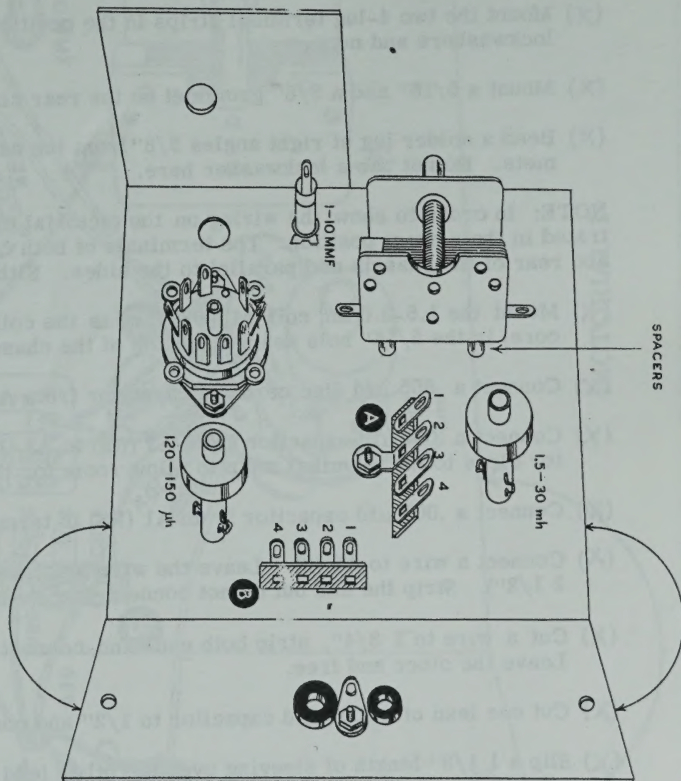

Figure 2
(X) Mount a 9-pin miniature socket in the 3/4" hole near the chassis bottom, using 3-48 screws, lockwashers and nuts. Position the socket so the pins appear as shown in Figure 2.
(X) Mount the 1-10  $\mu\text{f}$  trimmer capacitor by pushing the mounting clip through the 5/16" hole until it catches (see Figure 2). The stator terminal should face toward the chassis rear. This trimmer capacitor and the two coils have a small locating projection on one side of the mounting clip. This should be bent back or broken off before the clip is pushed into the mounting hole.
- (X) Cut the other resistor lead to 3/8" and connect to socket pin 3 (S). Keep the resistor close to the tube socket.
- (X) Cut one lead of a 2.2 megohm resistor (red-red-green) to 5/8" and the other lead to 1/2". Bend the leads as shown in Pictorial 1. Connect the 5/8" lead to ground lug 2 (S) and the 1/2" lead to pin 2 (NS).
- (X) Cut both leads of a 2.2 megohm resistor to 1/2" and connect from ground lug 3 (S) to pin 7 (NS).
- (X) Mount the 100  $\mu\text{f}$  tuning capacitor near the top front of the chassis in the following manner. First bend the capacitor terminals at right angles as shown in Figure 2. Insert four 4-40 x 3/8" screws through the 1/8" holes and place 3/16" spacers over them. Place the capacitor over the screws, and holding the screws with the fingers and the capacitor with the thumb of one hand, start each screw separately. When all screws are started, align the capacitor squarely and tighten all screws.
- (X) Mount the two 4-lug terminal strips in the positions shown in Figure 2, using 6-32 screws, lockwashers and nuts.
- (X) Mount a 5/16" and a 3/8" grommet on the rear chassis apron as shown.
- (X) Bend a solder lug at right angles 3/8" from the narrow end and mount it between the grommets. Do not use a lockwasher here.
- (X) Mount the 1.5-3.0 mh coil #40-67 (this is the coil not completely enclosed by an external core) in the 5/16" hole nearest the top of the chassis and terminal strip A. See Figure 2.
- (X) Connect a .005  $\mu\text{f}$  disc ceramic capacitor from A2 (NS) to coil terminal 2 (S).
- (X) Connect a .005  $\mu\text{f}$  capacitor from A2 (NS) to A3 (NS). See Pictorial 1 and keep the capacitor close to the terminal strip to allow room for the two mica capacitors.
- (X) Connect a .005  $\mu\text{f}$  capacitor from A1 (NS) to terminal 1 of the coil (NS).
- (X) Connect a wire to A1 (S). Leave the wire long enough to reach pin 1 of the tube socket (about 2 1/2"). Strip the end but do not connect yet.
- (X) Cut a wire to 3 3/4", strip both ends and connect one end to terminal 1 of the coil (NS). Leave the other end free.
- (X) Cut one lead of a .005  $\mu\text{f}$  capacitor to 1/2" and connect to terminal 1 of the coil (S).
- (X) Slip a 1 1/8" length of sleeving over the other lead and connect to A4 (NS).
- (X) Connect a 10 K $\Omega$  resistor (brown-black-orange) from A3 (NS) to B1 (NS).
- (X) Mount the 120-150  $\mu\text{h}$  Q multiplier coil in the 5/16" hole between the tube socket and chassis rear, arranging the lugs as referred to in the note above.
- (X) Slip a bare wire through the #1 coil terminal (NS) and connect to the lower tuning capacitor terminal (S). See Pictorial 1.